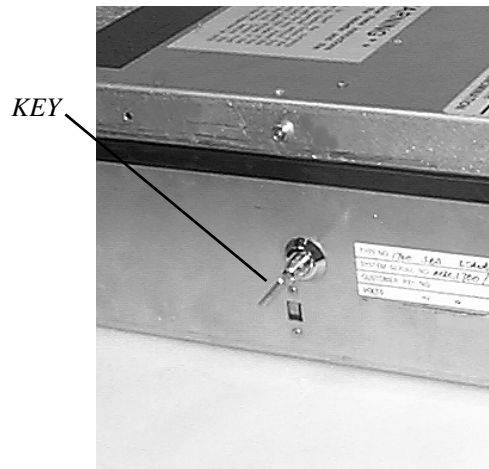

Figure 4-3. Priming the cassette.
- The cassette must be primed with the cassette key before it can be inserted onto the loading tray. Insert the key and turn clockwise to show the green indicator in the window on the side of the cassette. Refer to Figure 4-3 and Figure 4-4.